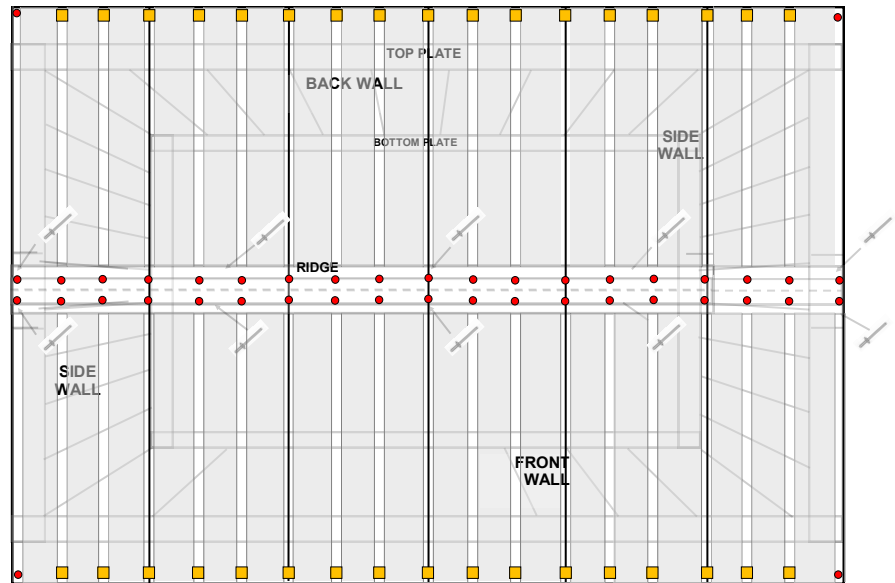

fig.2
Use the 50mm Clouts only on ribs covered by flashings, shown on pg 13 fig.2. Predrill holes using a 3.5mm drill bit. Use Roofing Screws on all other ribs. Ensure screws are not overtightened as this can damage the seals and cause the shed to leak.
- Secure with 2 x 75mm screws through the top of the Jack Studs into the Timber Top Plate (fig. 2).
- Rivet the 2 Ridge Caps together using 4 rivets, so total flashing is 3.050m long. Rivet the Ridge Flashing to the centre of the roof using 10 x rivets as shown (**fig.2**).